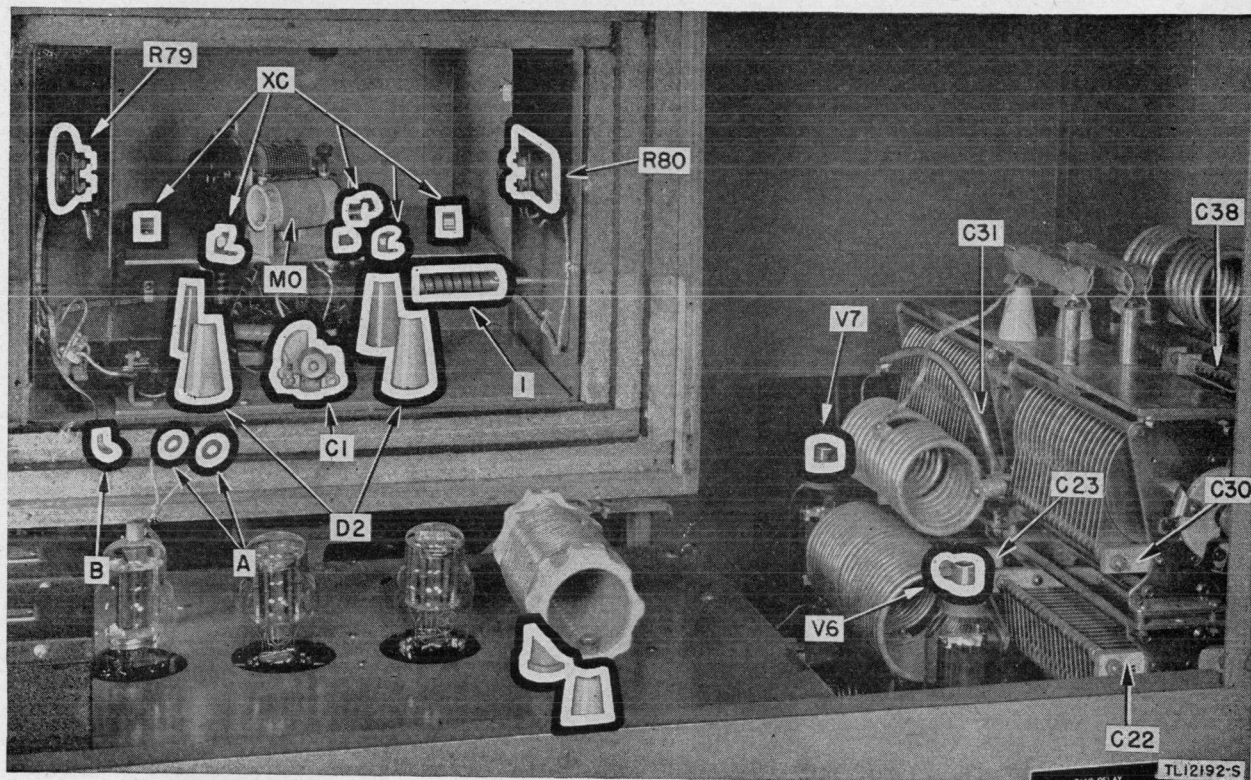

Figure 31. Oscillator unit.
(c) Remove the oscillator plate meter wires A and ground wire B. (See fig. 31.)
(d) Remove the three triode amplifier Tubes JAN-4C22/HF-100, V6, V7, and V8 (fig. 31) (tube V8 not visible in photograph).
(e) Remove the master oscillator assembly MO (fig. 31), if used.
(2) *Oscillator unit.* (a) Mask the crystal clip connections XC. (See fig. 31.)
(b) Mask the strip heaters, one on each side of the crystal compartment R79 and R80. (See fig. 31.)
(c) Mask the Helix spring of thermostat I. (See fig. 31.)
(i) Mask the grid and plate clips of triode amplifier Tubes JAN-4C22/HF-100, V6, V7, and V8 (fig. 31) (V8 tube not visible in the photograph).
(k) Mask the wiping contacts and contact surfaces of variable capacitors C22, C23, C31, and C38. (See fig. 31.)
(o) Mask the insulators that support the inner crystal compartment D2. (See fig. 31.)
(p) Mask the oscillator feedback capacitor C1. (See fig. 31.)
(t) Mask the terminals of the oscillator plate meter leads and the ground lead A and B. (See fig. 31.)